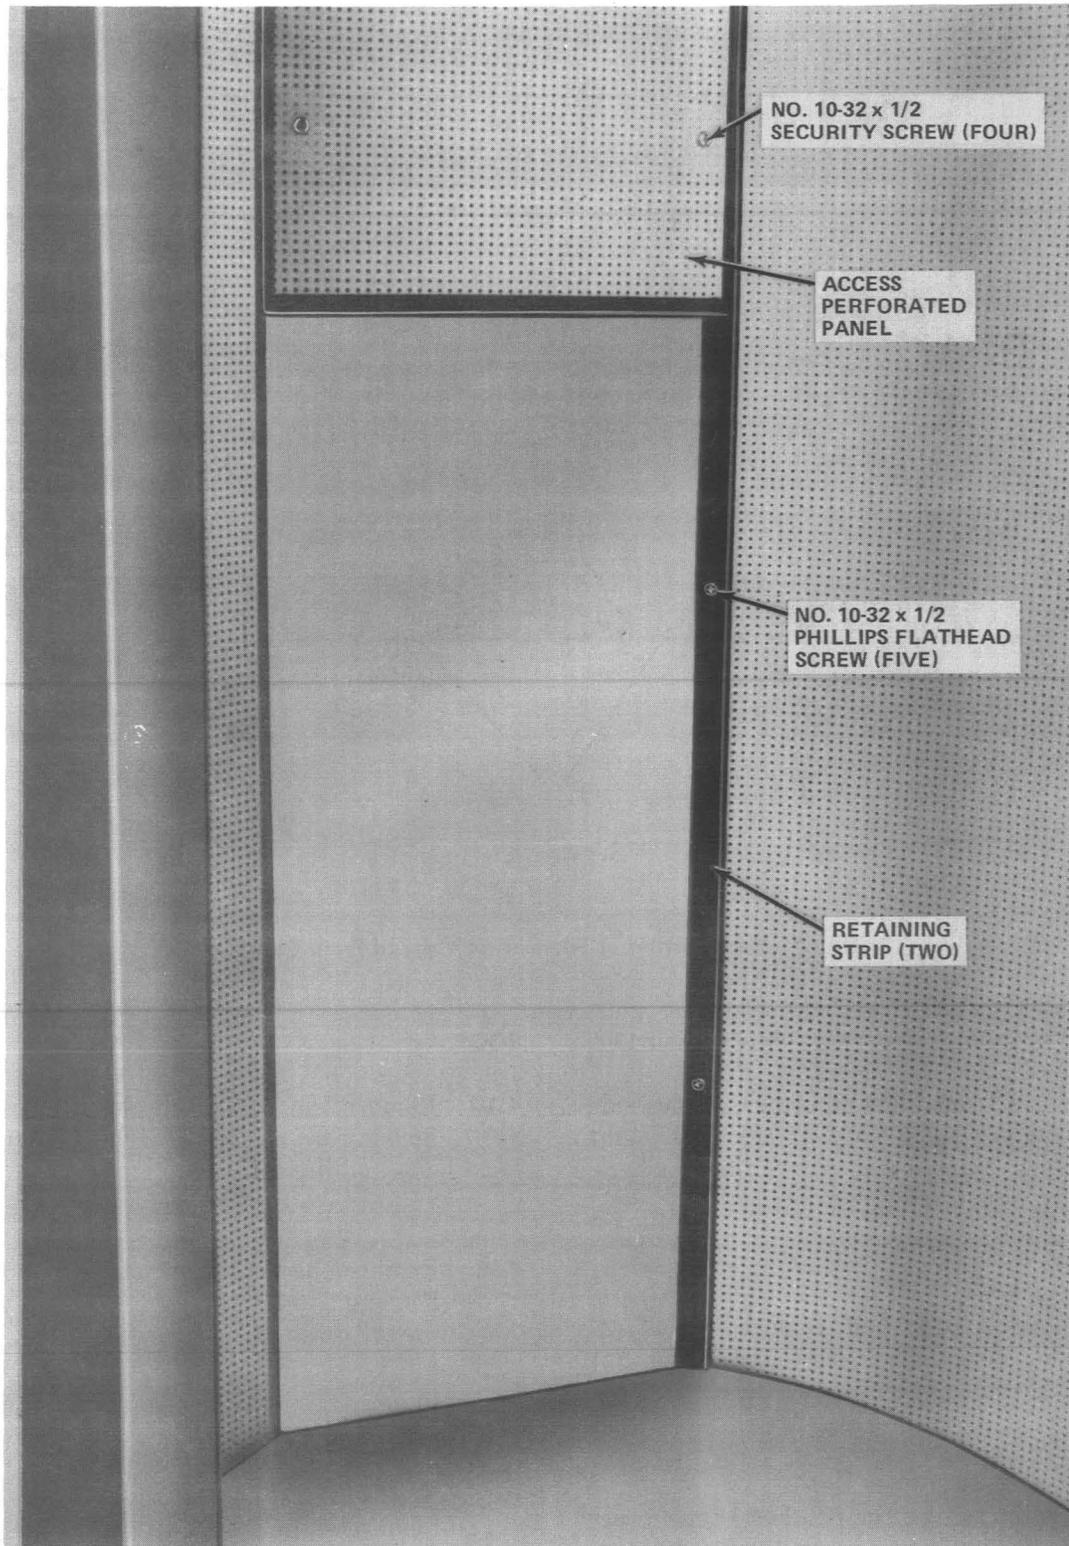

Fig. 6—Rear Portion of Silencer as Viewed From Front
- (1) Using a KS-19192, List 1 wrench, remove four No. 10-32 by 1/2 security screws and remove the perforated aluminum access panel from above the telephone position (Fig. 6).
- (1) Using a KS-19192, List 1 wrench, remove four No. 10-32 by 1/2 security screws and remove the perforated aluminum access panel from above the telephone position.
- (2) Remove two 5/16-18 hex nuts and two 5/16-inch flat washers that secure lower portion of housing to post or wall mounting.
- (3) Remove four 3/8-18 by 3/4 hex head screws and four 3/8-inch flat washers that secure top portion of housing to post or wall mounting.
- (4) Remove writing shelf (paragraph 4.07).
- (5) Remove roof (paragraph 4.10 or 4.11).
- (6) Remove five No. 10-32 by 1/2 Phillips flathead screws from each retaining strip at rear of housing (Fig. 6).
- (7) Remove retaining strip.
- (8) Pull perforated panel forward from rear and lift off.
- (9) Install using reverse procedure.